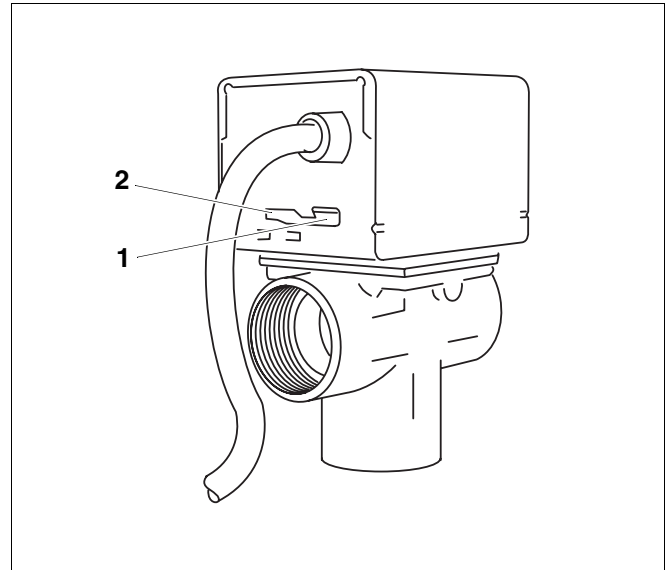

Fig. 5 Motorised 3-way valve, actuator lever "AUTO/MAN"
The valve plunger is in mid stroke, when the lever is in the "MAN" position (Fig. 5, **item 1**). This creates an even medium flow to both outlets A and B. When the valve is switched on, the drive positions the control lever back to the "AUTO" position (Fig. 5, **item 2**).